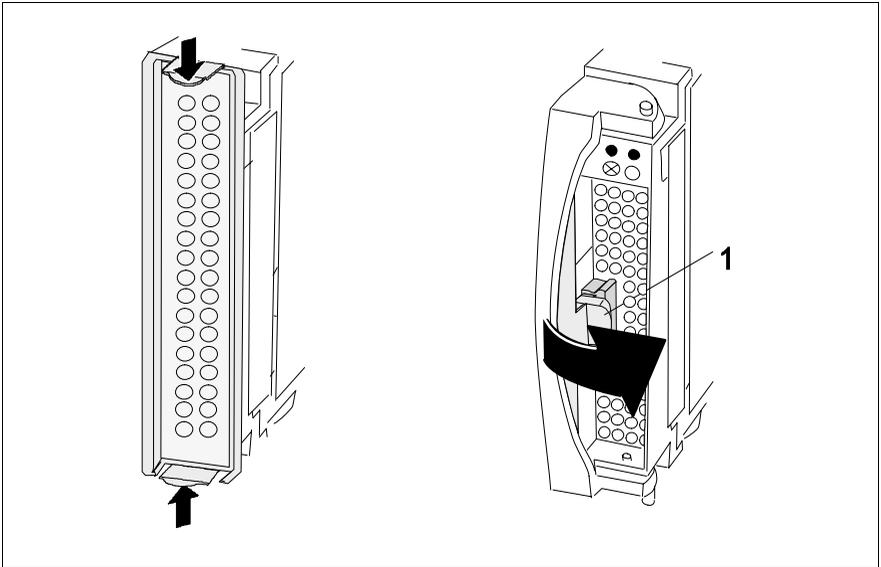

Figure 15: Dummy Module and corresponding HDD Module
- ▶ Press the upper and lower tabs on the dummy module together (see figure 15 on page 39) until the locking mechanism disengages, and remove the dummy module from the slot.